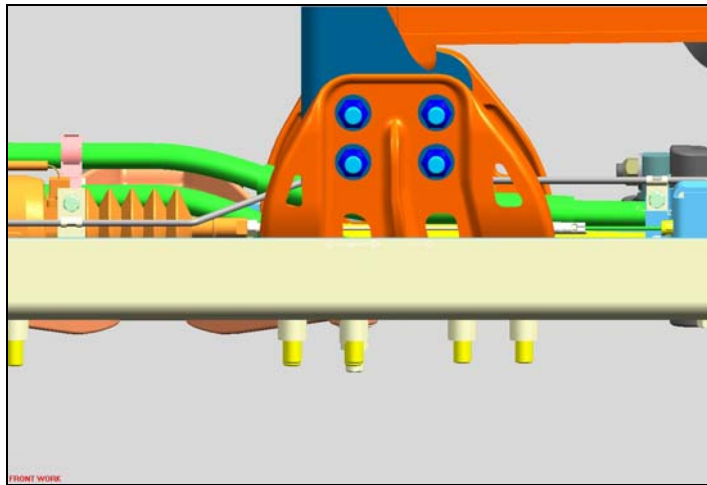

Figure 2 Device location
- 2: Position stroke measuring device on side of rail in the area indicated in Figure 2 (this area is clear of lines and is the only available area long enough to verify the stroke of the actuator)
6.3) Insert a flathead screw driver through the adjusting slot (Figure 2) and move the teeth downward to expand the brake shoes outward, check stroke achieved.